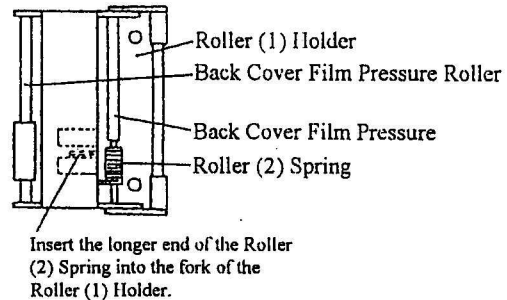

Fig.53
- c) Set the longer end of the Roller (2) Spring between the two prongs of the fork on the Roller (1) Holder. (See Fig. 53)